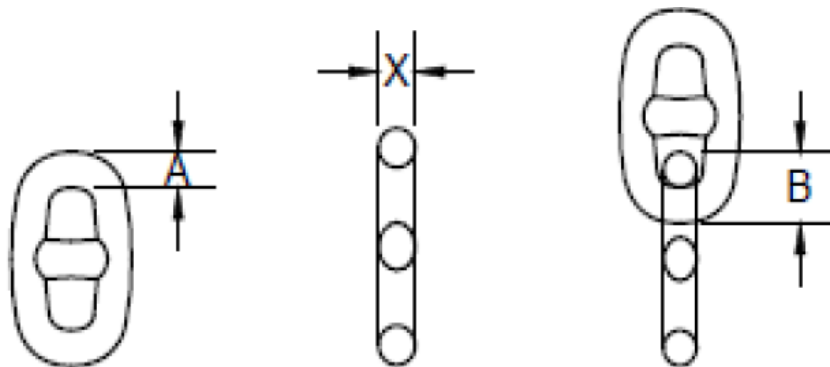
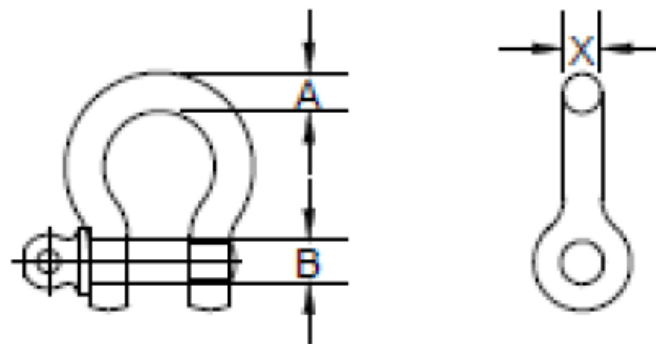

Figure 2 - Correct and incorrect chain measurements
Figure 3 - Correct and incorrect shackle measurements
The specific dimension that is required is the diameter of the bar in way of the contact point between links/connecting hardware. More specifically, the required orientation of the diameter dimension is along the mooring line axis, as shown in the diagrams in figure 2.
along the centre line of the chain (as shown in figure 2) rather than the side of the chain.
If the shackle is in tension, then the crossover measurements are required, as shown in figure 2 (B). If the shackle is slack then the single bar diameters are required, as shown in figure 3 (A, B).